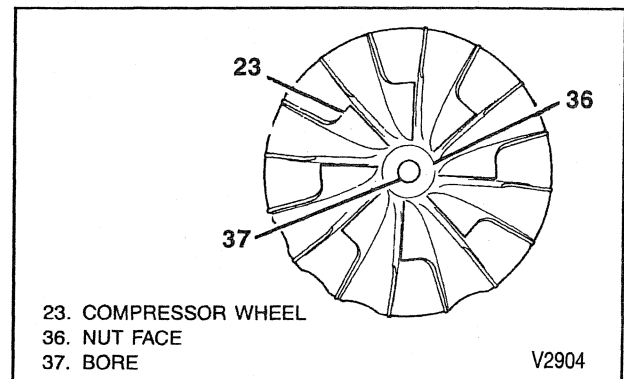

Figure 4—Normal Compressor Wheel
- At the compressor wheel blades (figures 4 through 7). There should not be any bent, broken, eroded, or cracked wheel blades.